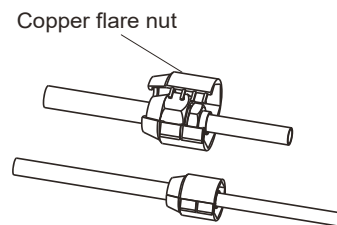

Fig. 8-9
- The protective nut is a one-time part, it can not be reused. In case it is removed, it should be replaced vvith a new one.(Refer to Fig.8-9)